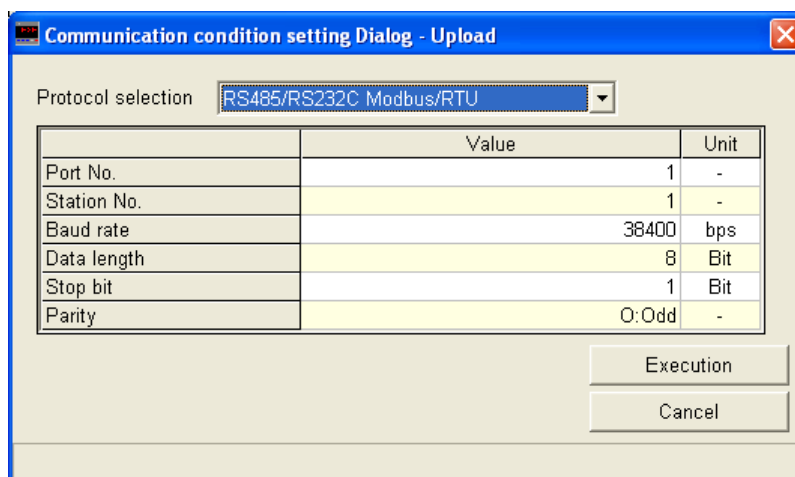

Fig. 6-5 Communication condition setting
- (1) From the Work selection Window, select [Upload from PXH], and click on [OK] button.
- (2) Select the Communication condition setting Dialog (Fig. 6-5), and click on [Execution] button.